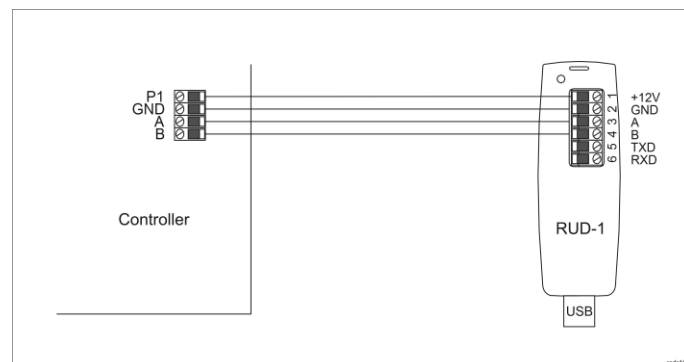

Fig. 2 Connection of the controller to RUD-1 interface for firmware update
1. Connect the device to RUD-1 interface (fig. 2) and connect the RUD-1 to computer's USB port.